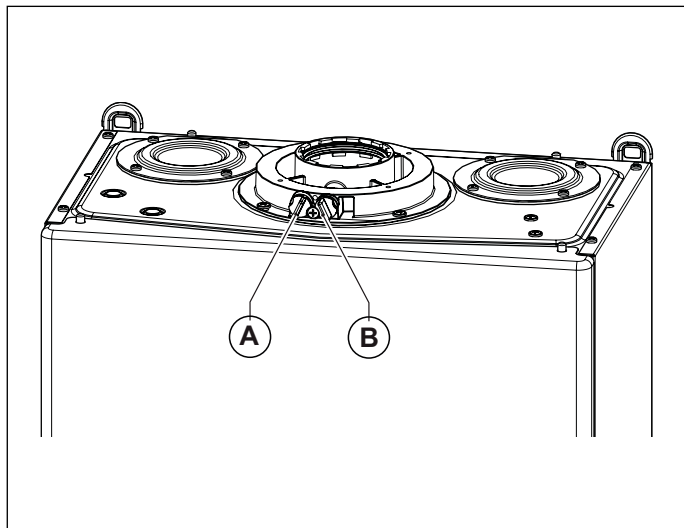
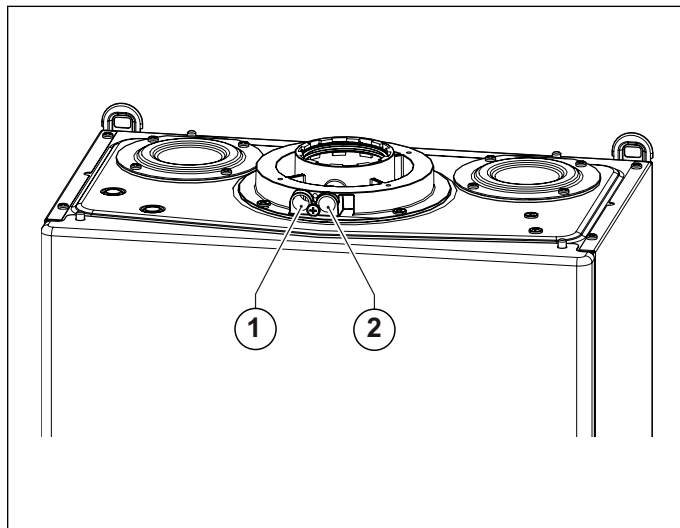

Fig. 17 Caps position
Fig. 18 Hole position
The boiler is equipped with a tower allowing for air intake/flue gas venting pipe connection (see Fig. 17 Caps position and Fig. 18 Hole position).
The tower is designed with two pre-arranged openings directly accessing air and flue gas ducts (see Fig. 18 Hole position).
Remove caps **A** and **B** from the pre-arranged openings on the tower, before taking the measurements (see. Fig. 17 Caps position).
- assess combustion air from opening **1** (see Fig. 18 Hole position).
- assess flue gas temperature and CO₂ from opening **2** (see Fig. 18 Hole position).